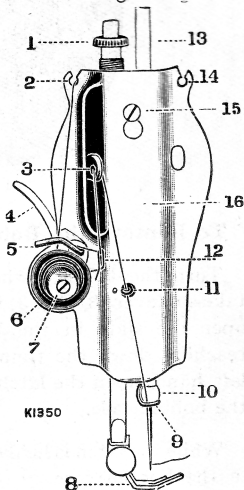
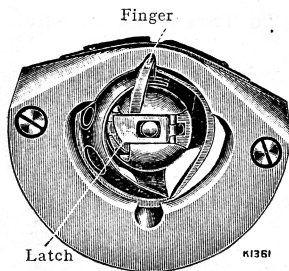
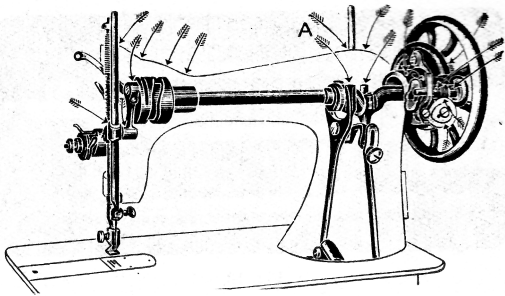
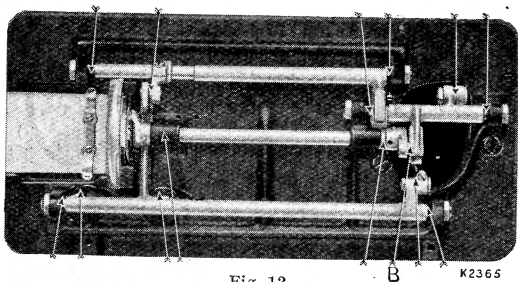

Fig. 3
Fig. 4
Fig. 12
Fig. 13
(See Fig. 3.)
Turn the balance wheel towards you until the take-up lever (3, Fig. 3) is at its highest point, draw open the slide in the bed of the machine and, reaching down the thumb and fore-finger of the left hand, open the latch (see Fig. 4) and withdraw the bobbin case.
of face plate (14, Fig. 3), then thread the bobbin winder by passing the thread first through the lower eyelet (5) of the thread guide from below and into the notch (2) at its top. Now pass the thread through a hole in the left disc of the bobbin from the inside, and with the left hand press the bobbin on to the spindle
After threading, hold the bobbin case by the latch between the thumb and forefinger of the left hand and replace it on the centre stud of the bobbin case holder, with its position finger opposite the notch at the top of the shuttle race, as shewn in Fig. 4; then release the latch and press the bobbin case back until the latch catches the groove near the end of the stud. Allow the end of thread to hang free, and close the slide in the machine bed.
Raise the take-up lever (3, Fig. 3) to its highest point and lift the presser foot; then move the material back and to the left, and sever the threads by passing them over the thread cutter above the presser foot. Leave the ends of the threads a few inches long under the presser foot.
For ordinary family sewing it is seldom necessary to change the pressure on the material. If sewing fine silk or flimsy material, lighten the pressure by giving the thumb screw (1, Fig. 3) two or three turns upwards. If it be found necessary to increase the pressure, give the thumb screw a few turns downwards.
Stop the machine when the take-up lever (3, Fig. 3) is at its lowest point, raise the presser foot and turn the work, as desired, using the needle as a pivot. Then lower the presser foot again.
All moving parts in contact must be covered with a film of oil **and not allowed to become dry**. Oil should always be applied at the points indicated by arrows in Figs. 12 and 13, a drop of oil being sufficient at any place. To oil the needle bar mechanism, remove the face plate (16, Fig. 3) by loosening the screw (15, Fig. 3) and slipping the plate up over it. When oiling, insert the oil can spout well into the oil holes. **It is most important that oil should be applied to point "A" Fig. 12 and to point "B" Fig. 13 when the needle bar (13, Fig. 3) is at its lowest point.** A drop of oil should also be applied to the shuttle race.
The thread take-up spring (12, Fig. 3) being broken.
**Stitches Looping.**—This is regulated by the tensions (see page 11). See that both the bobbin case and the needle are properly threaded, and that the thread used is of good quality and the correct size for the needle (see Table on inside of back cover). See that the spring (12, Fig. 3) is not broken.